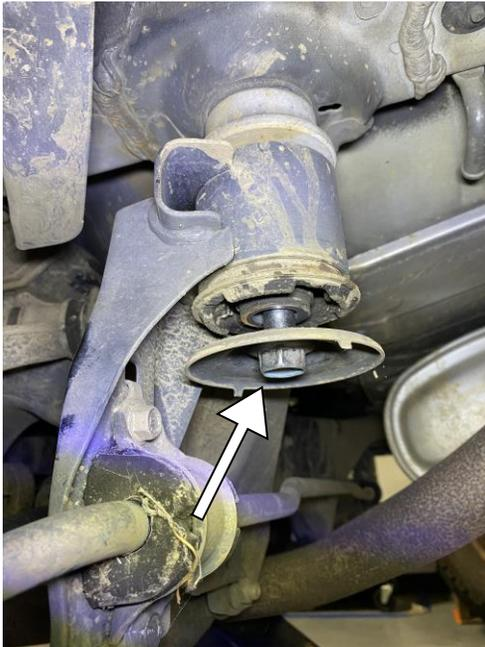
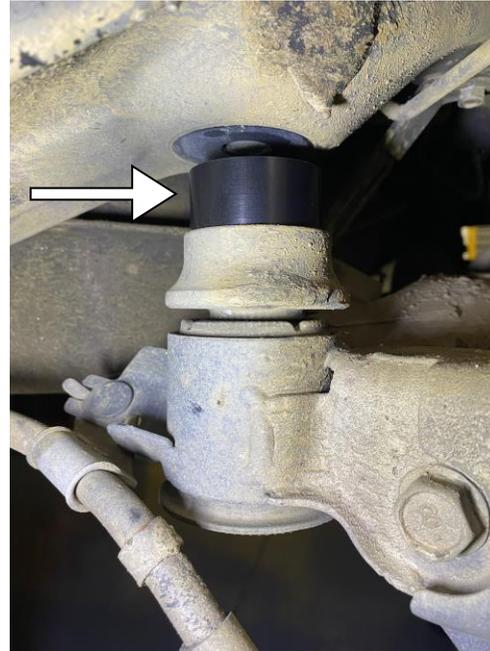

Figure 5. Driver's side depicted
Figure 6. Driver's side depicted
- T. On the driver's side, loosen the OE cradle drop bolt as shown below in Figure 5. On the passenger's side, remove the OE cradle drop bolt. On the driver's side again, continue loosening until the supplied Bilstein Cradle Drop Spacer fits into place as shown below in Figure 6. Apply a high strength, permanent thread locker to the driver's side OE cradle drop bolt. Then reinstall it and tighten it to the vehicle manufacturer's specifications. Repeat the process for the passenger's side.